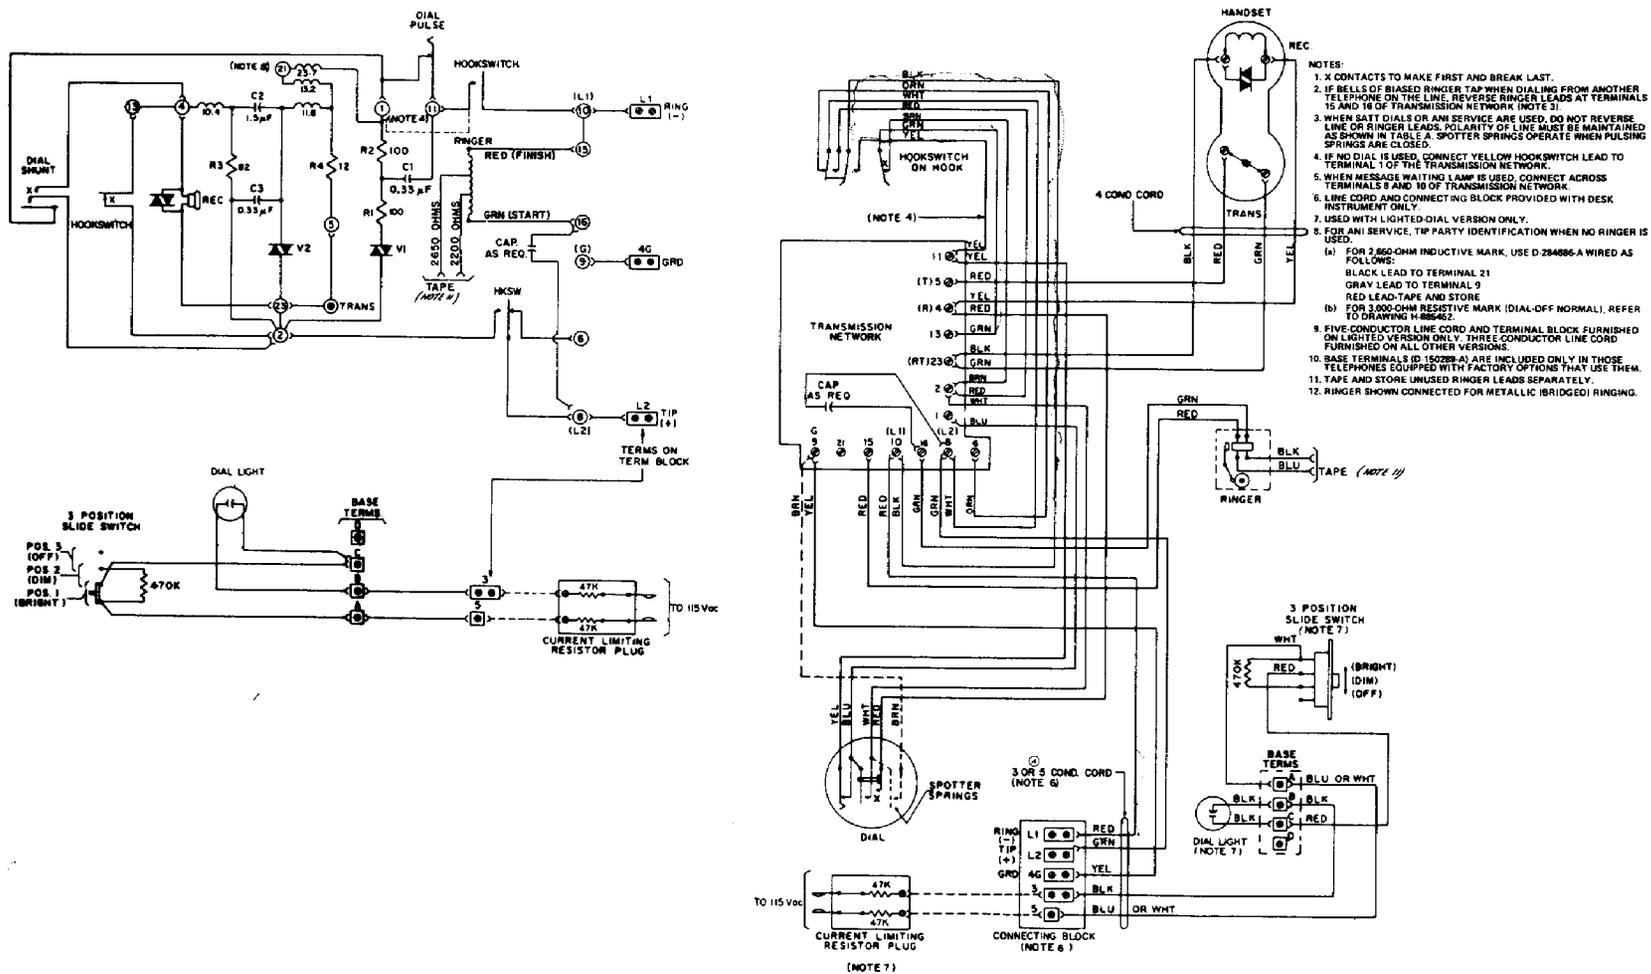

Figure 7. Schematic Wiring Diagram of the Type 182A and 192A Telephones Equipped with a Rotary Dial.
4.03 To install the optional dial light switch (item 30), proceed as follows:
- (b) Connect the leads according to Figure 7 and Table 5.
- (d) Connect the ringer leads to the telephone circuitry according to Figure 7 or 8 and Table 5 or 6.
- (e) Connect the capacitor (item 27) to the transmission network.
4.07 To install the line cord (item 15 or 15a) on the Type 182A telephone, proceed as follows:
- (a) Connect the leads to the transmission network and baseplate terminals according to Figures 7 or 8 and Tables 5 or 6 (depending on the type of service required).
- 4.08 To install the handset (item 13), proceed as follows:
- (a) Connect the handset cord leads to the transmission network according to Figures 7, 8, or 9 and Tables 5 or 6 (depending on the type of service required).
- (c) Clamp the cord under the cord clamp (item 14).